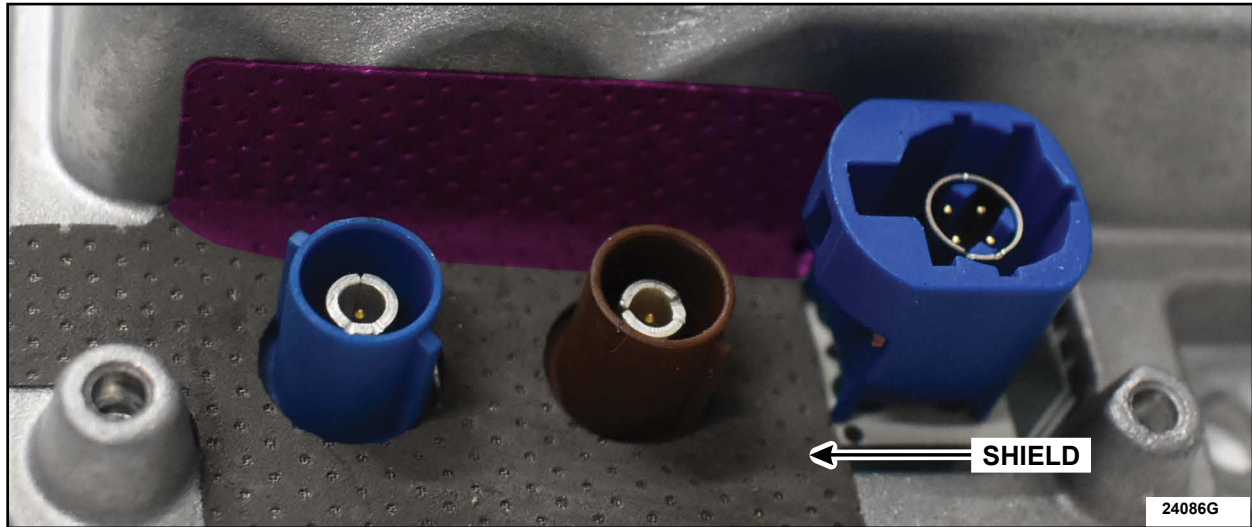

FIGURE 7
8. Using a plastic wedge tool, press on the vertical surface to ensure the shield has good adhesion to the APIM housing. See Figure 7.